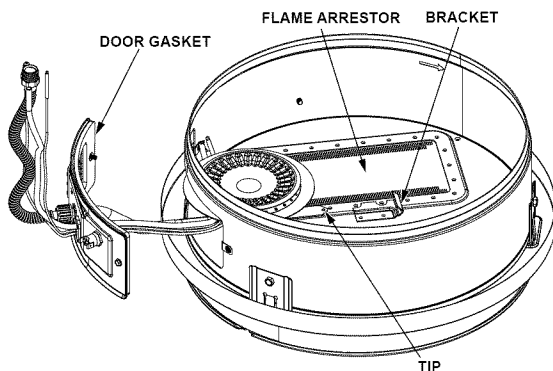

FIGURE 30.
3. Insert the manifold/burner assembly into the burner compartment making sure that the tip of the manifold tube engages in the slot of the bracket inside the combustion chamber (Figure 30).